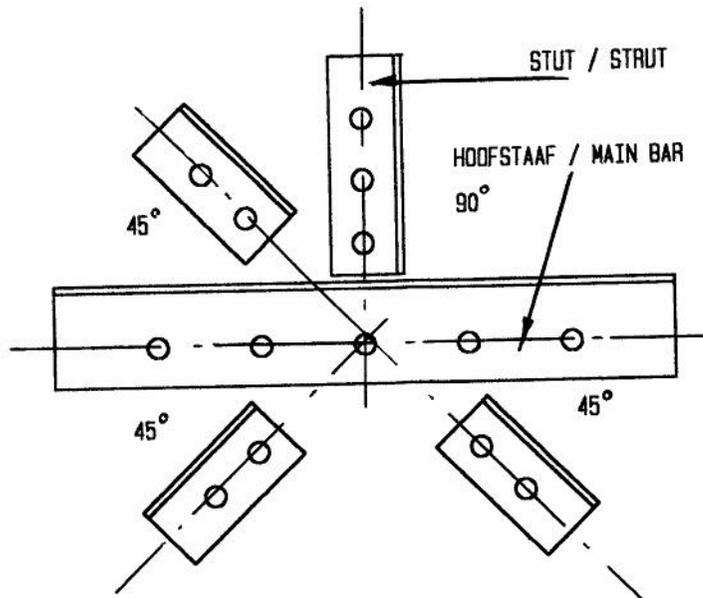

Figure 6
6.1 **Figure 6** shows the junction of the beams of a roof truss. Draw, to a scale of 1:5, a detailed drawing of this junction to show the gusset plate which must be used.